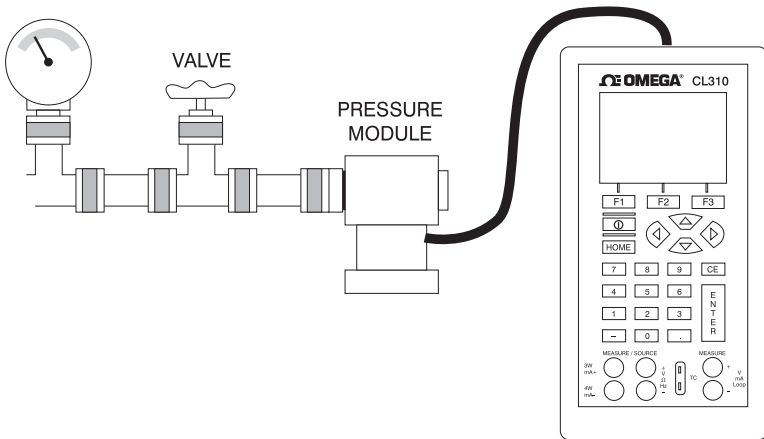

Figure 9. Connections for Measuring Pressure
1. Connect the pressure module to the calibrator as shown in Figure 9.